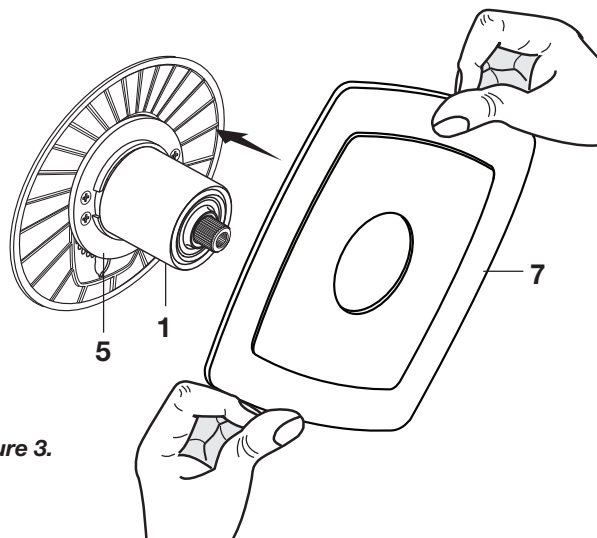

Figure 3.
- **Figure 3.** Install ESCUTCHEON (7) onto CAP (1) and push flush against finished wall. Escutcheon (7) will snap fit onto ESCUTCHEON SUPPORT (5).